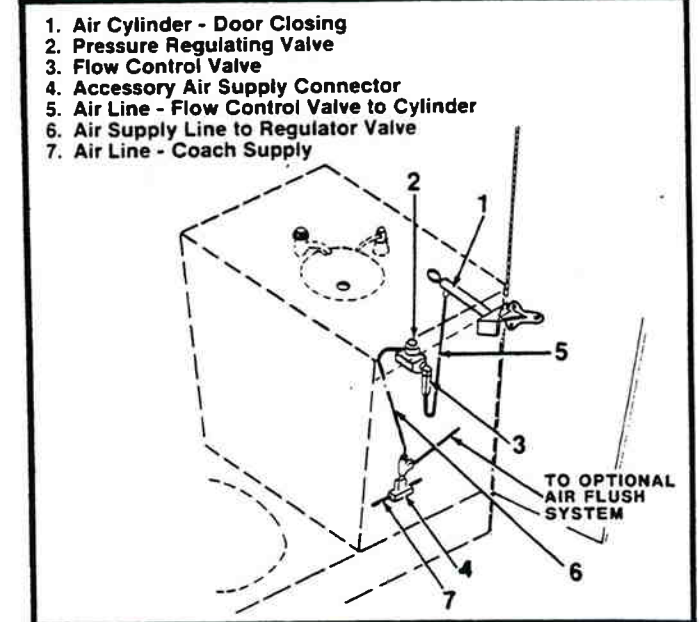

Figure 17-6. Lavatory Door Air Cylinder Installation.
The cylinder is fed from the coach accessory air supply (4). A pressure regulating valve (2) and a flow control valve (3) assure a controlled closing action (figure 17-6). Refer to Section 4, Brakes and Air System, for detailed maintenance of regulating valve.